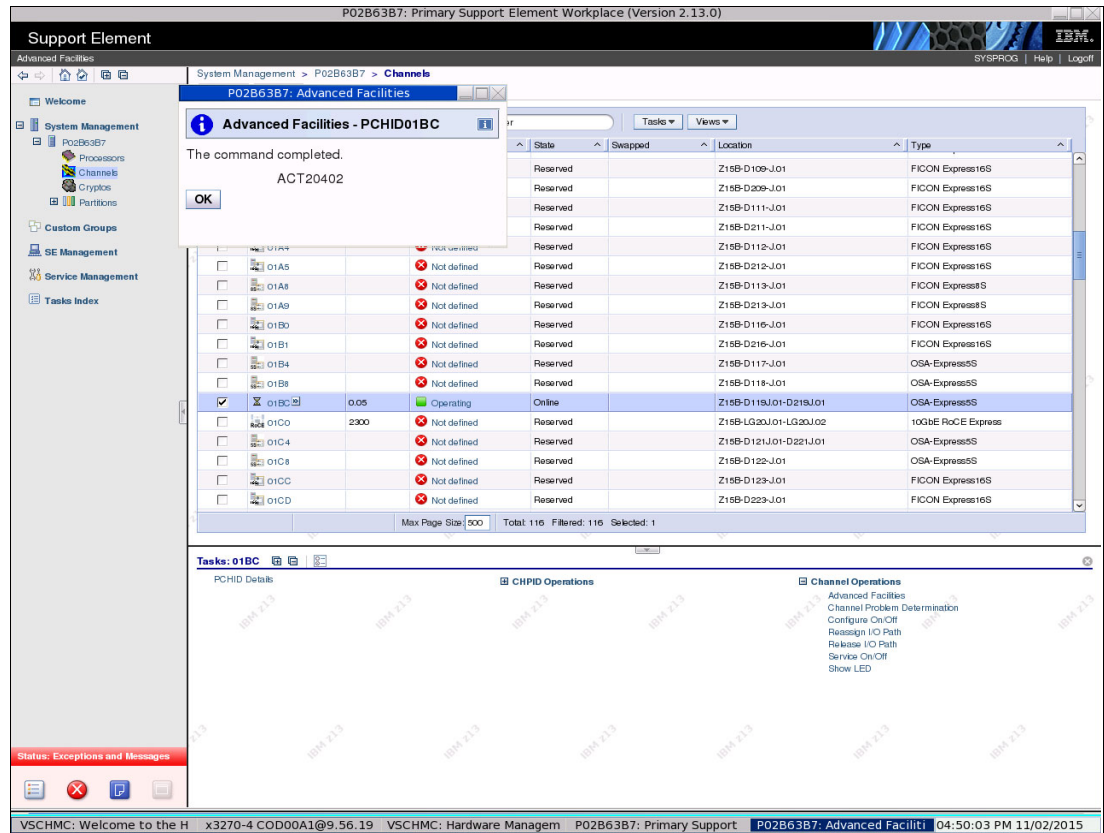

Figure 7-14 Edit Sessions Configuration command completed panel
- In the Edit Sessions Configuration panel, we click **Save**. The Edit Sessions Configuration command completed panel is displayed, as shown in Figure 7-14.